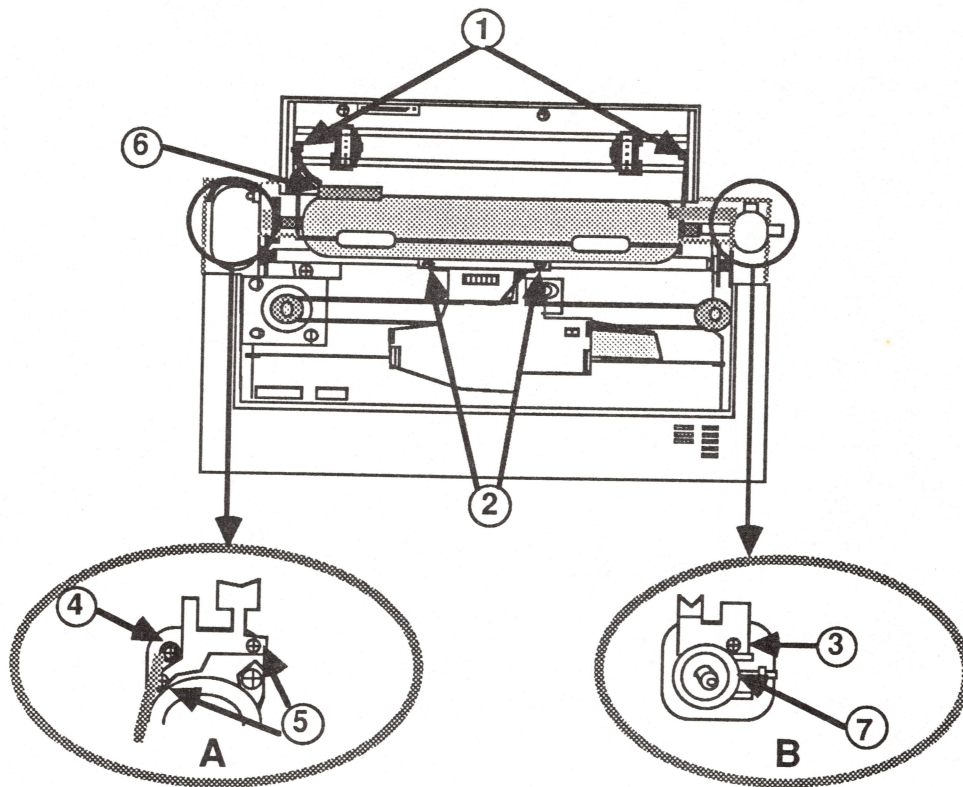

FIGURE 34
5. Remove the paper bail assembly (see Figure 34, #1).
6. Remove the two screws that hold the paper guide in place (see Figure 34, #2). Lift the paper guide out of the machine.
7. Remove the screw from the right side of the printer that holds the metal plate in place (see Figure 34, Detail B, #3). Set the metal plate and screw aside.
8. Remove the screw from the left side (see Figure 34, Detail A, #4). This screw holds a grounding strap in place.
9. Remove the two screws from the left side that holds the metal plate in place (see Figure 34, Detail A, #5). Set the metal plate and two screws aside.
10. Locate the small metal plate attached to the platen (see Figure 34, #6). The plate has a small black grounding wire soldered to it. Unsolder the wire.
12. On the right side of the machine are two plastic pieces, the platen bushing and the free lever, which the platen shaft slides into (see Figure 34, Detail B, #7). Use a flathead screwdriver to gently snap the outer piece free. Remove both pieces.